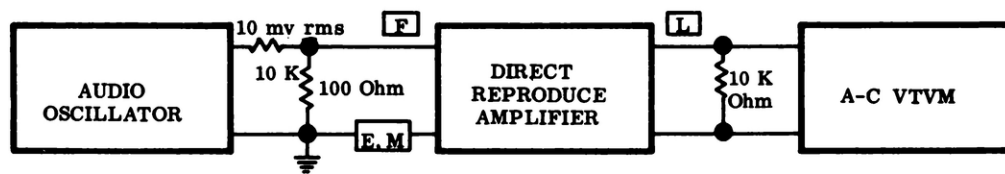

Figure 4-4. Test Set-up, Static Equalizer Adjustment
Step 1: Connect the amplifier to the card rack through an extension card, and connect the test equipment as shown in figure 4-4. Turn power ON.